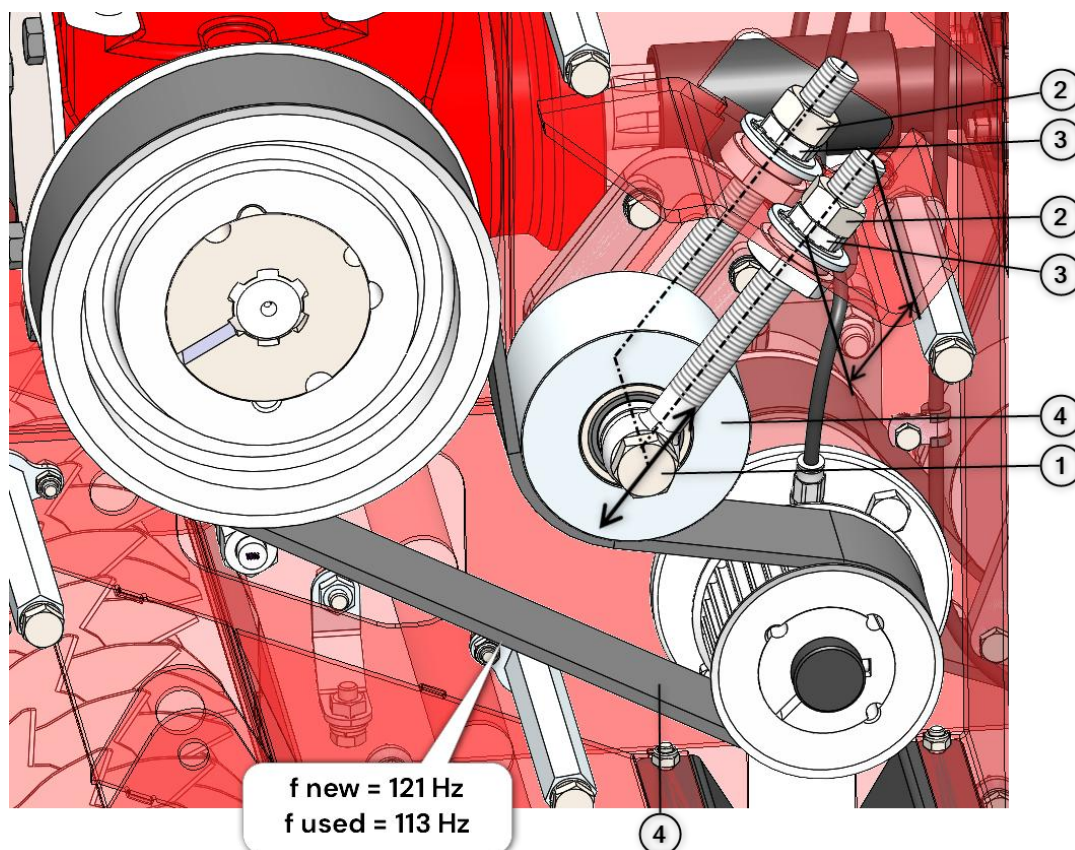

Fig. 24
Timing belt B (4) (SKU 651.501.064) is located at the rear right-hand side. Replacement and tensioning are carried out as follows (see Fig. 24):
2. Use a 24 mm spanner to loosen the M16 bolt (1) on the tensioner pulley by one turn.
3. Loosen the two lock nuts (2) by as much as you wish to move the tensioner pulley. When replacing the timing belt (4) note that this will be slightly further than when tensioning the timing belt (4).
4. Then, adjust the two height-adjustment nuts (3) by approximately the same amount. You can check this by comparing the measurement with the one recorded earlier. Ensure that the tensioner moves as parallel as possible.
5. Tighten the M16 bolt (1) slightly again, along with the lock nuts (2).
7. See Fig. 24 to check the correct frequency for a new or existing timing belt.
9. Once the correct frequency of  $\pm 3$  Hz has been achieved, the M16 bolt (1) and the two lock nuts (2) can be tightened to the correct torque; see chapter 12.7.